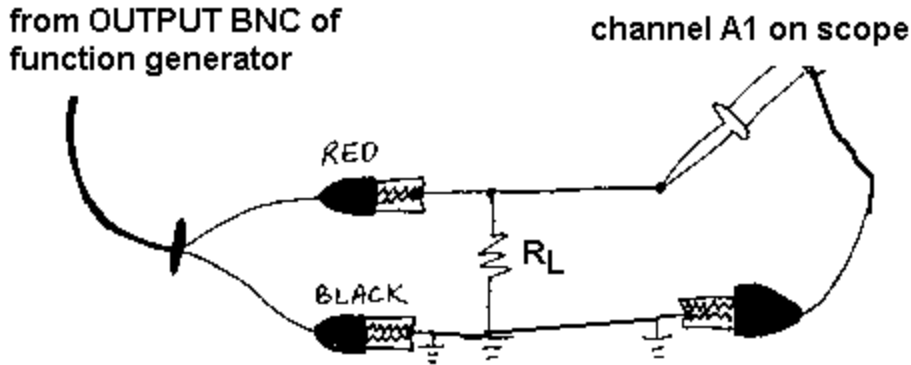

Figure 5: Set-up to graph a signal on the oscilloscope. $R_L=200$ Ohms
1. Build the circuit of Figure 5. $R_L = 200$ ohms. Make sure the signal across the resistor is 1.0Vpp, 500 Hz. The HP function generator may end up saying 640 mVpp to achieve this.